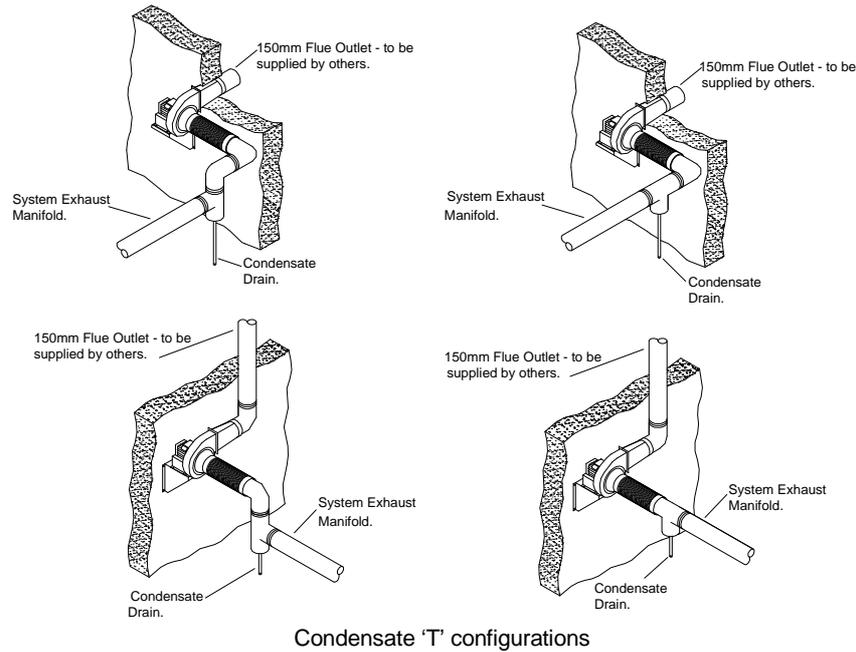

Fig.12
3.2.3 Arrange the manifold suspension to provide a slight fall in the direction of the exhaust fan in order that any condensate formed will be collected in the condensate trap, which should be fitted immediately before the inlet to the exhaust fan (Fig.12). Suggested slope of 25mm per 6m length of manifold tube. The condensate trap (15mm PVC or galvanised (not copper)), should be 'U' shape with a minimum depth of 250mm and with the outlet connected to a drain.